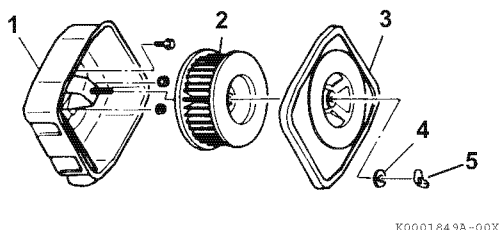

Figure 7
1. Remove the wing nut (5, **Figure 7**) and gasket (4, **Figure 7**).
2. Remove the air cleaner cover (3, **Figure 7**).
3. Remove the air cleaner element (2, **Figure 7**).
5. Clean the inside and outside of the air cleaner housing and cover (1, 3, **Figure 7**).
6. Reinstall (or install the new) air cleaner element (2, **Figure 7**) into the air cleaner housing.